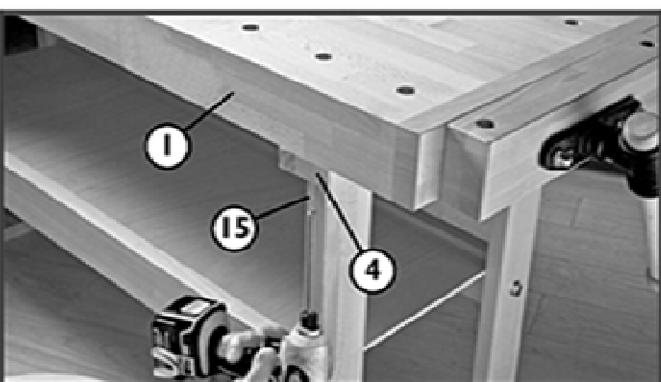

Fig. 5
5. Place the Bench Top (1) so it rests in place on the two leg assemblies. Attach to the Top Rail Supports with four wood screws 5x50mm (15), one in each corner (Fig.5)